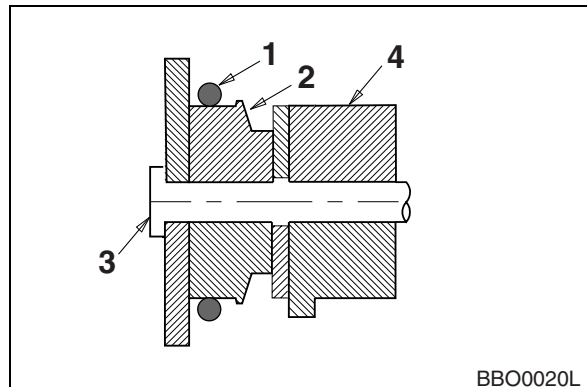

Figure 84
2. Roll old O-ring (1, Figure 84) onto boss (2) around bucket pin (3). Remove bucket pin and move arm or bucket link (4) out of way.
4. Realign arm or link with bucket pin hole and insert bucket pin (3, Figure 84).